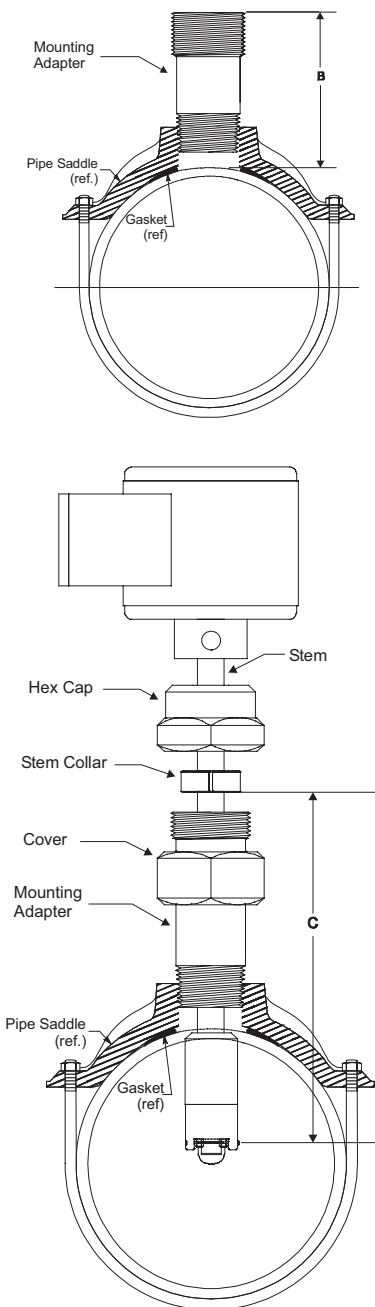

Figure 5: Dimensions B" and "C"
- b. Next, measure from the outside wall of the pipe to the top of the installed mounting adapter, this is dimension "B" in Figure 5.
- c. Add this number to the reference measurement. The resulting number is dimension "C" in Figure 5
- b. Next, measure from the outside wall of the pipe to the top of the installed mounting adapter, this is dimension "B" in Figure 5 on page 9.
- c. Add this number to the reference measurement. The resulting number is dimension "C" in Figure 5 on page 9